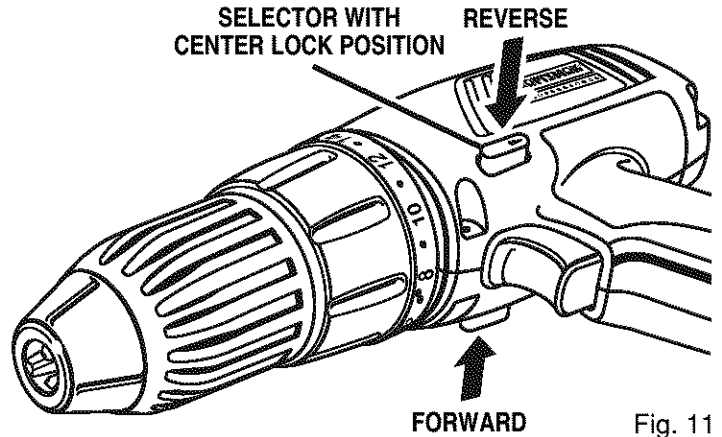

Fig. 11
- Lock the switch trigger by placing the direction of rotation selector in center position. See Figure 11.
- Depress latch located on front of battery pack (1) to release battery pack.
- Pull forward on battery pack (2) to remove from drill.
See Figure 11.